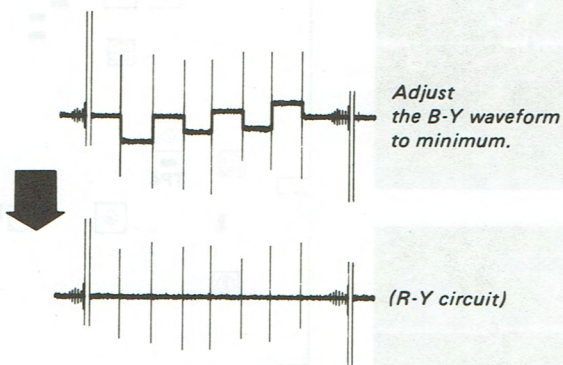

Fig. 26-2.
4. Set the oscilloscope sensitivity to 20mV/DIV, and adjust RV2 on the BE board so that the output waveform is flat. (See Fig. 26-2.)